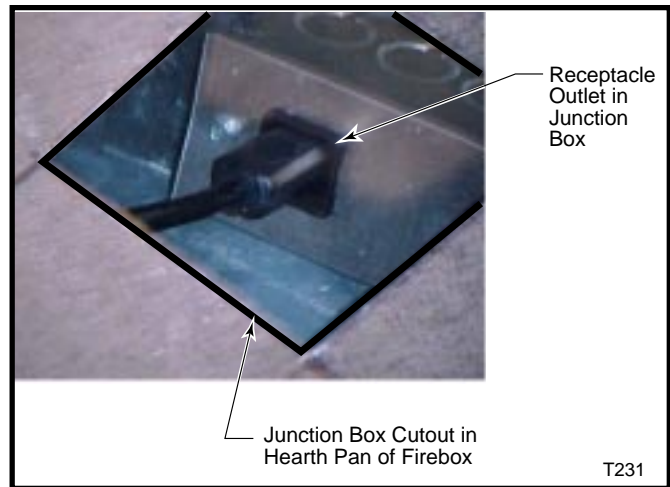

Fig. 10 Route powercord under the hearth pan and plug into the receptacle outlet.
Step 5: Locate the junction box cutout found on the right side of the hearth pan. Route the powercord under the hearth pan and plug it into the receptacle outlet found in the junction box. (Fig. 10)